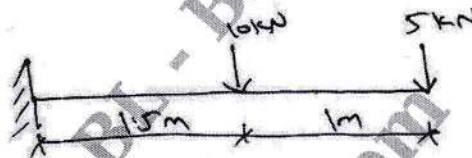

Fig.Q5
- 5 Determine the slope and deflection at the free end of a cantilever beam as shown in Fig.Q5 by moment area method. Take $EI = 4000 \text{ kN/m}^2$.